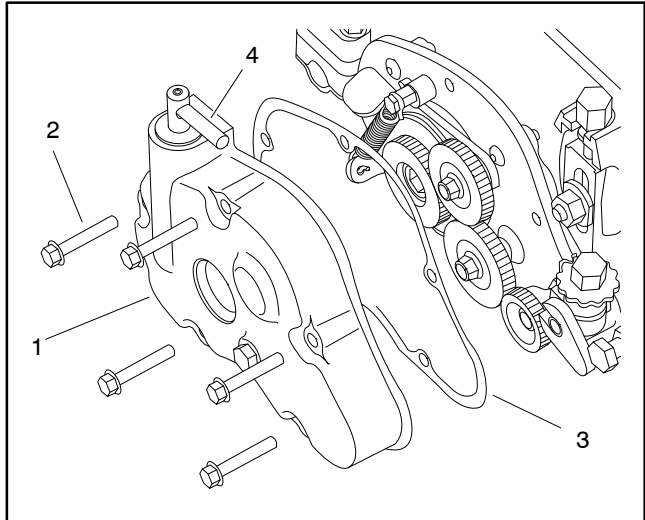
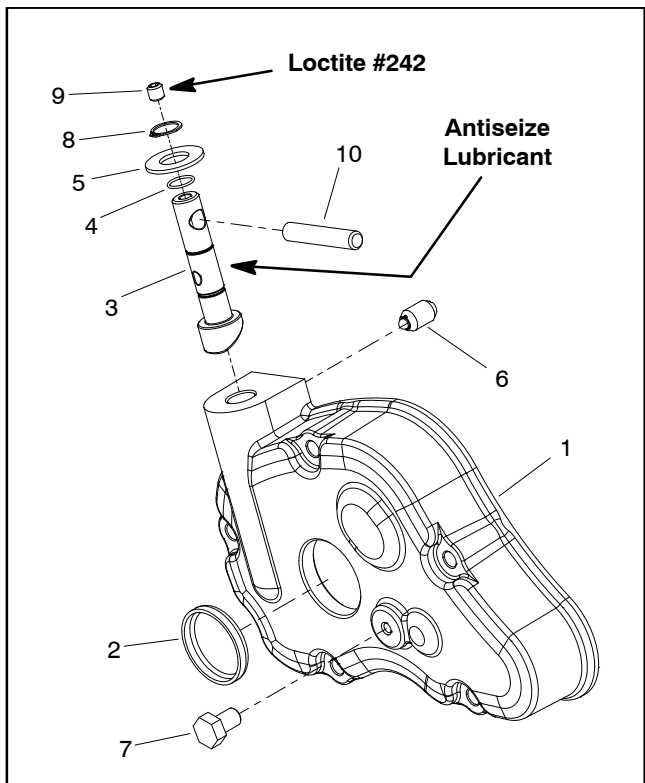

Figure 5
Figure 6
5. Remove groomer cover assembly from machine (Fig. 5):
A. Remove five (5) flange head screws that secure groomer cover assembly to RH drive plate.
6. If necessary, remove shaft from groomer cover (Fig. 6):
A. Loosen set screw (item 9) on top of shaft and slide handle from shaft.
B. Remove retaining ring (item 8) and thrust washer (item 5) from shaft.
C. Remove plunger detent (item 6) from groomer cover.
D. Slide shaft out of groomer cover. Remove and discard O-ring (item 4) from shaft.
1. If removed, install shaft into groomer cover (Fig. 6):
2. Install groomer cover assembly to RH drive plate assembly (Fig. 5):
B. Fill groomer cover with approximately five (5) ounces (142 grams) of Mobil XHP221 grease (or equivalent).
C. Install new gasket and then groomer cover assembly to RH drive plate. Secure cover with five (5) flange head screws.